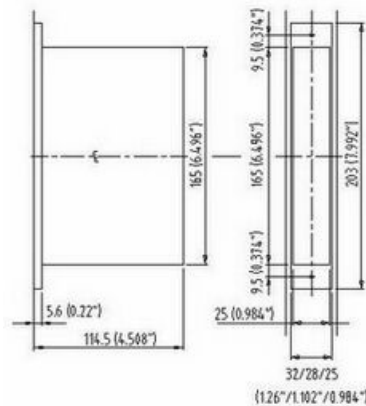

Figure 10: Cut-out for ANSI (DA) lock case
Determine where the positioning of the lock case center line (CL) shall be, and make the cut-out according to Figure 10.